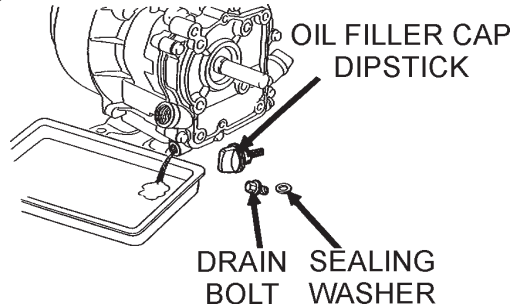

Figure 18. Engine Oil (Draining)
2. Drain the engine oil when the oil is **warm** as shown in Figure 18.